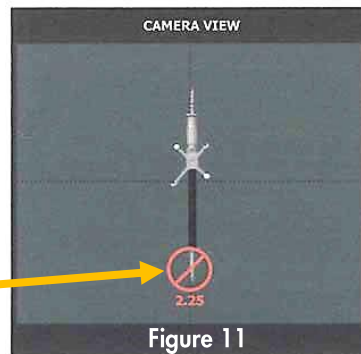

Figure 11
- Instruments need to be successfully verified to be navigated. If verification fails, repeat the verification process until it is successful, or proceed without the capability to navigate that Instrument. Failed verification is signified by a **RED** cross-lined circle (Figure 11).